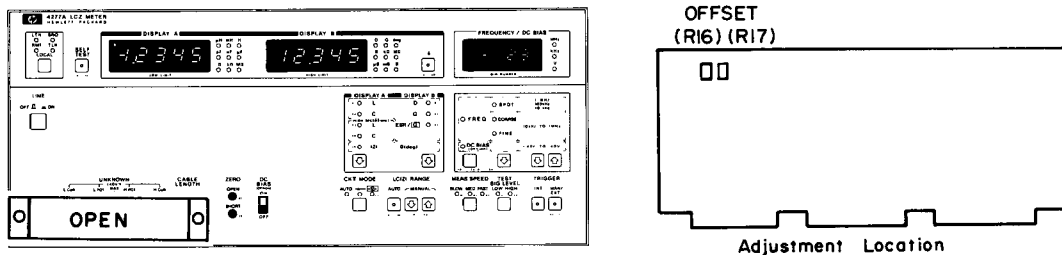

Figure 5-7. TRD Offset Adjustment Setup.
- Connect the OPEN termination of the 16074A directly to the UNKNOWN terminals as shown in Figure 5-7.